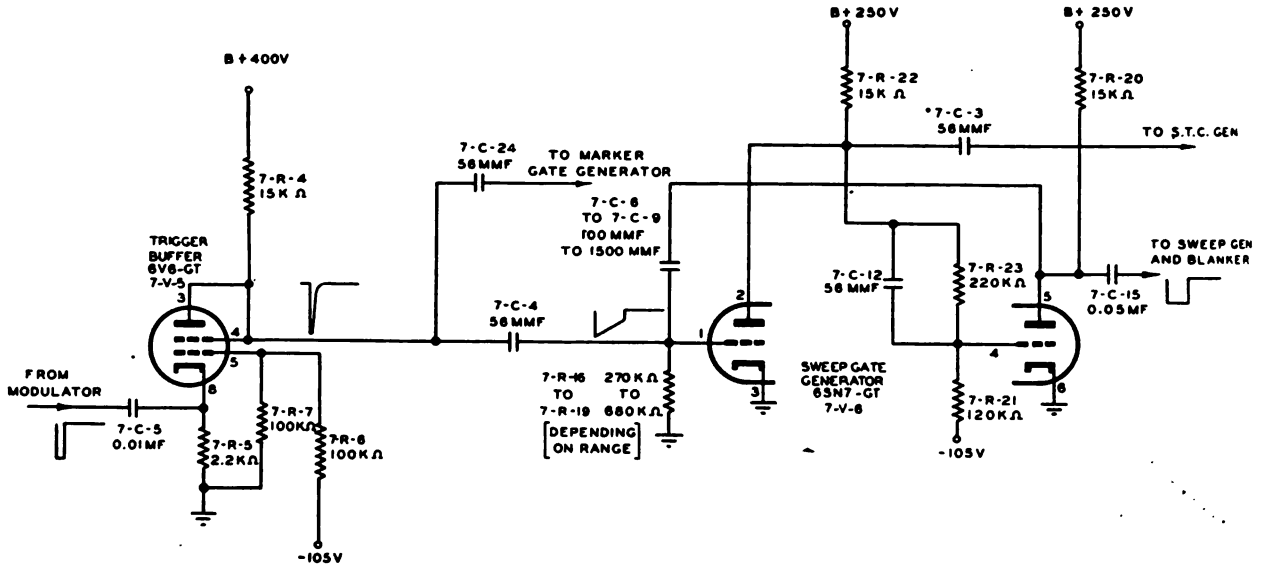

Figure 108. Trigger buffer and sweep gate generator, simplified schematic diagram.
**b. SWEEP-GATE GENERATOR.** (1) A twin triode (fig. 108) is used to follow the trigger buffer stage and is used as a sweep-gate generator. Both triode sections are used individually. The first section conducts between pulses since it has no bias applied and has a plate voltage of about 95 volts. The second section is biased to cut-off. The bias applied to the grid of the second section is tapped off a voltage divider network which consists of 7-R-21 and 7-R-23 connected between  $-105$  volts and  $+95$  volts. The cut-off bias on the grid of the second section is therefore about  $-35$  volts. The plate voltage of the second section at cut-off is  $+250$  volts.
(2) When the square 100-volt negative pulse developed by the trigger buffer is applied to the grid of the first section through capacitor 7-C-4, this section is driven below cut-off. Current ceases to flow, and the voltage at the tube plate rises to 250 volts. A positive voltage, therefore, is impressed on the grid of the second section and this section reaches current saturation. At saturation increased current in the plate-load resistor 7-R-20 causes a voltage drop which decreases the plate voltage of the second section from 250 to about 95 volts. The 155-volt drop is coupled back through one of four feedback capacitors, 7-C-6, 7-C-7, 7-C-8, or 7-C-9, to the grid of the first section thus holding it at cut-off. The feedback capacitor discharges to ground through its asso-